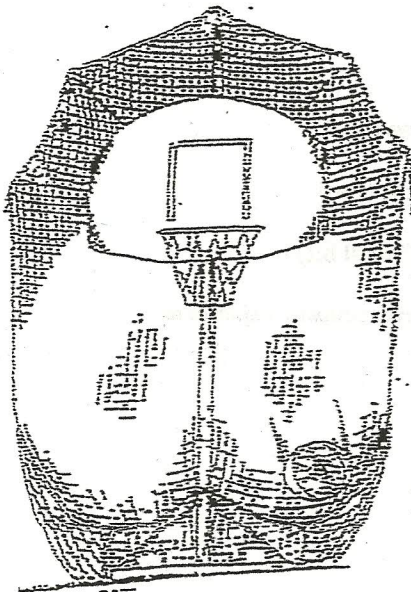

Fig. 5
- a) Wrap the bottom of the net around the base of your portable Basketball system and tie the black leads around the pole in front of the system. (Fig. 5)